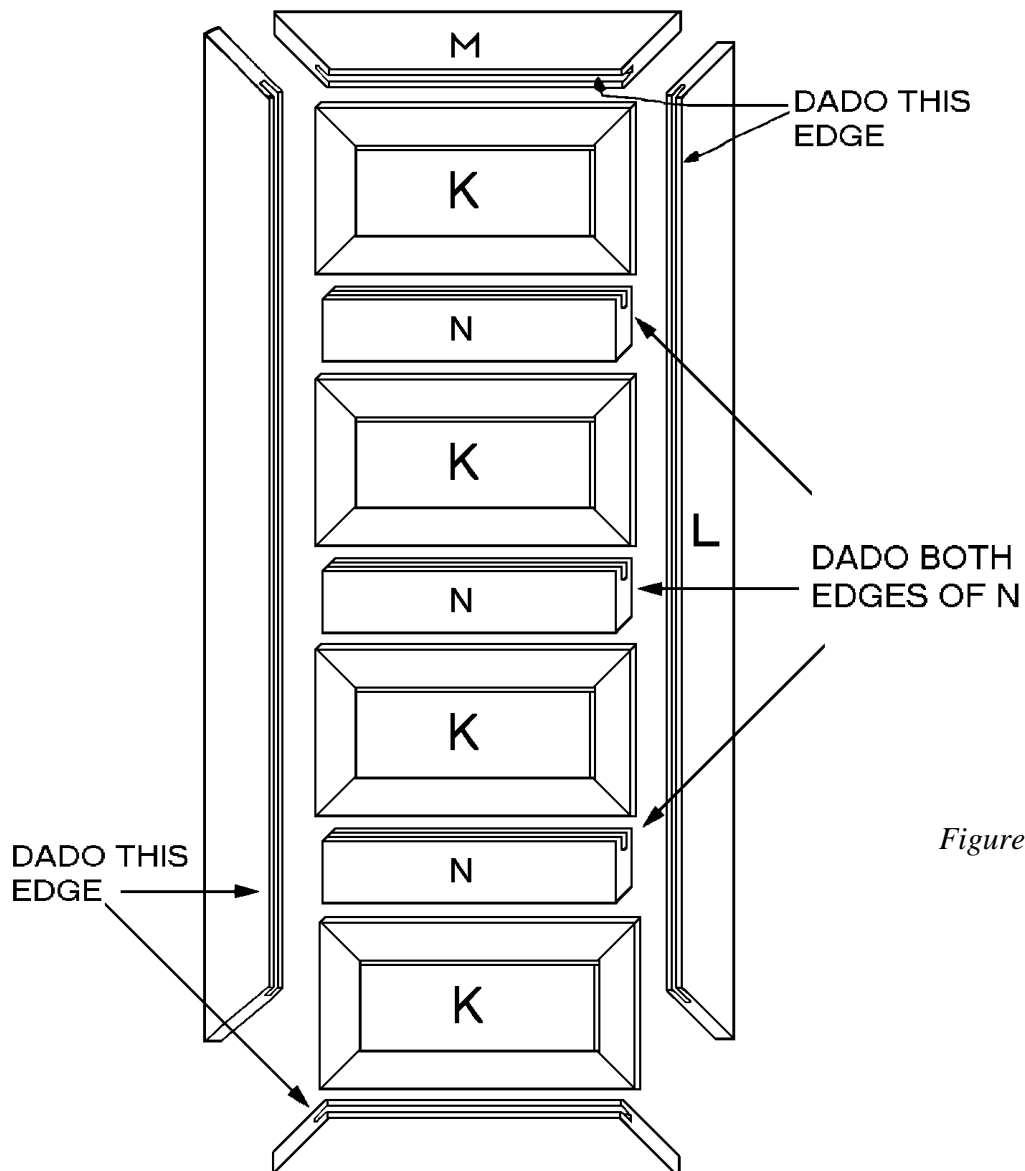

Figure 5
3. The assembly of the panels within the outer frame is shown in *Figure 5*. To make the frame, rip a total of 13 linear feet of 1 x 4 pine to a width of 2 inches.
4. Cut two side frame pieces (L) from the ripped 1 x 4 pine, each measuring 35-1/2 inches long.
5. Setting each side frame piece (L) on its face, miter both ends at a 45-degree angle, as shown in *Figure 5*.
6. Cut two inner top/bottom frame pieces (M) from the ripped 1 x 4 pine, each measuring 18 inches long.
7. Setting each top/bottom frame piece (M) on its face, miter both ends at a 45-degree angle as shown in *Figure 5*.
8. Cut three inner frame pieces (N) from the ripped 1 x 4 pine, each 14 inches long.
9. The four panels (K) float in a dado that is cut into the frame pieces. Cut a dado 1/4-inch wide and 3/8-inch deep into the shorter edge (which will face to the inside of the finished door) of the top, bottom and side frame pieces (L and M). For some assistance in cutting dados, refer to the “Tips and Techniques” on the home page of the website.
10. Cut a dado 1/4-inch wide and 3/8-inch deep into both of all three inner frame pieces (N).
11. To make certain that all pieces fit together perfectly, the door should first be assembled without glue or nails. Lay all of the door parts on a level surface. Then, referring to *Figure 5*, place the top frame (M) between the two side frames (L), and match the miters. Set the first panel (K) into the dados in the frame pieces (L and M), and fit one inner frame piece (N) between the side frame pieces (L) below the panel. Next alternately add three more panels (K) and two more inner frame pieces (N). Finally, add the bottom frame piece (M).
12. When you are satisfied that all of the pieces fit correctly, glue and clamp the assembly together and let it sit for a few hours. Glue only the frame pieces together; the panels should float freely in the dados. Reinforce the four corners and each of the inner frame pieces (N) with 8-penny finishing nails.